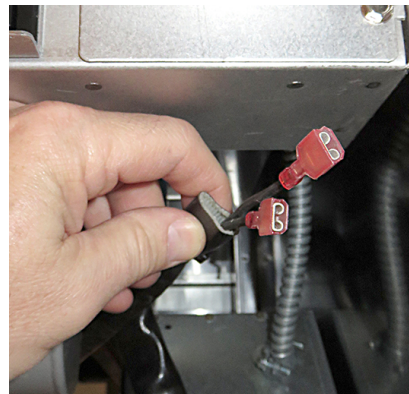

Figure 15
18. Route the other end of the harness, with the two female ends, to the location where the dispose bracket will be installed (see Figure 15).